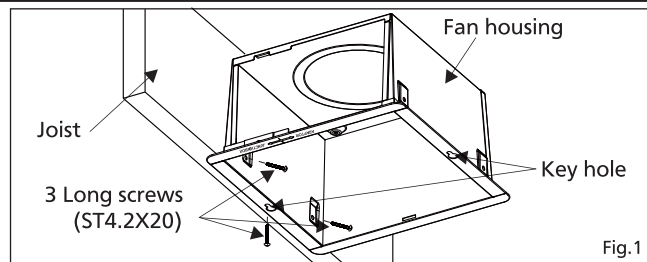

Fig.1
1. Affix the fan housing to joist with 3 long screws (ST4.2X20) by affixing first 1 screw on the bottom of the joist, hang up the fan housing through the key hole, tighten the screw, then affix other 2 screws. (Fig.1)
1. Affix the fan housing to joist 3 long screws (ST4.2X20) by affixing first 1 screw on the bottom of the joist, hang up the fan housing through the key hole, tighten the screw, then affix other 2 screws. (Fig. 1)